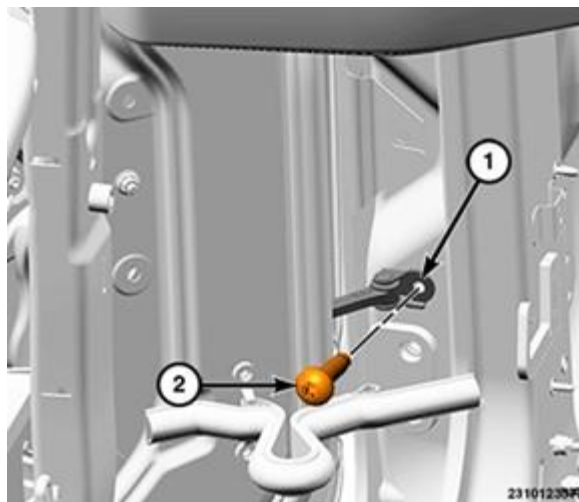

Figure 15 – Door Check Bolt
- 22. Remove the bolt (2) securing the door check (1) (Figure 15).